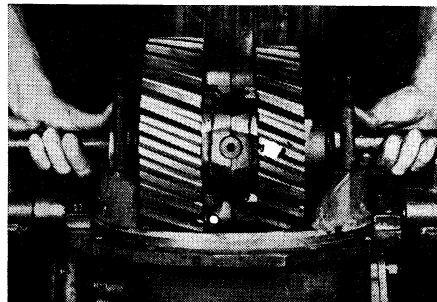

Fig. 6 Lifting out differential and gear assembly
4. Lift out differential and gear assembly, Fig. 6.